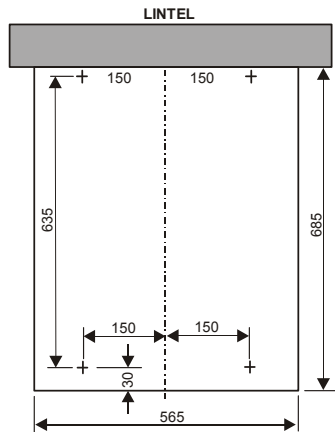

Figure 52
2. Using **Figure 52**, mark out and create the appropriate opening to accommodate the Freedom Surround.
3. With reference to **Figure 52**, mark out, drill, plug and fit the four vine eyes.